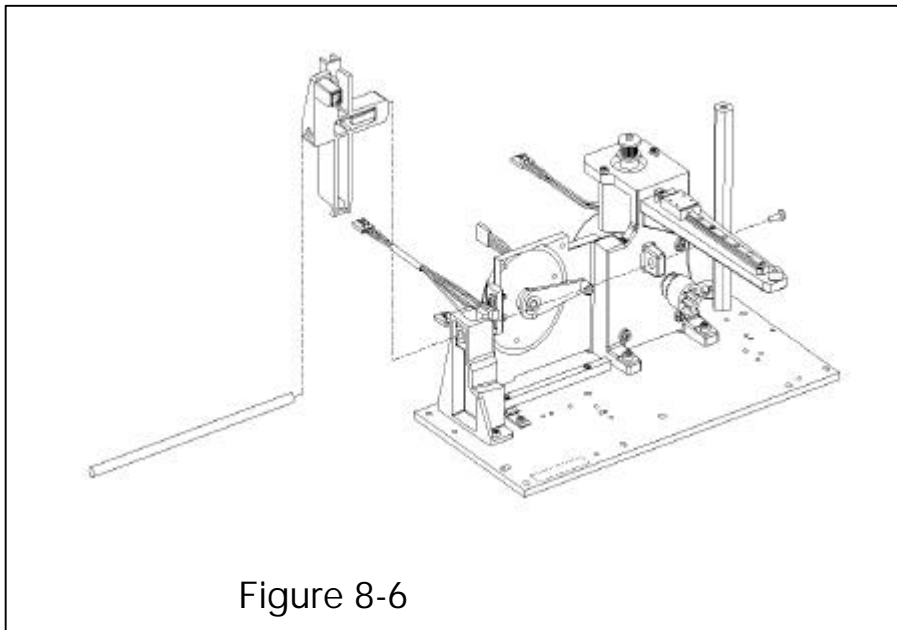

Figure 8-6
2. Remove the Push Bar Shaft by removing the Phillips head screw that secures it to the Motor Casting (see figure 8-6). Once the screw is loose, remove the Push Bar Shaft. *(Refer to section 9-18 for more detailed instruction for disassembly and reassembly of the Push Bar Shaft and Crank arm.)*